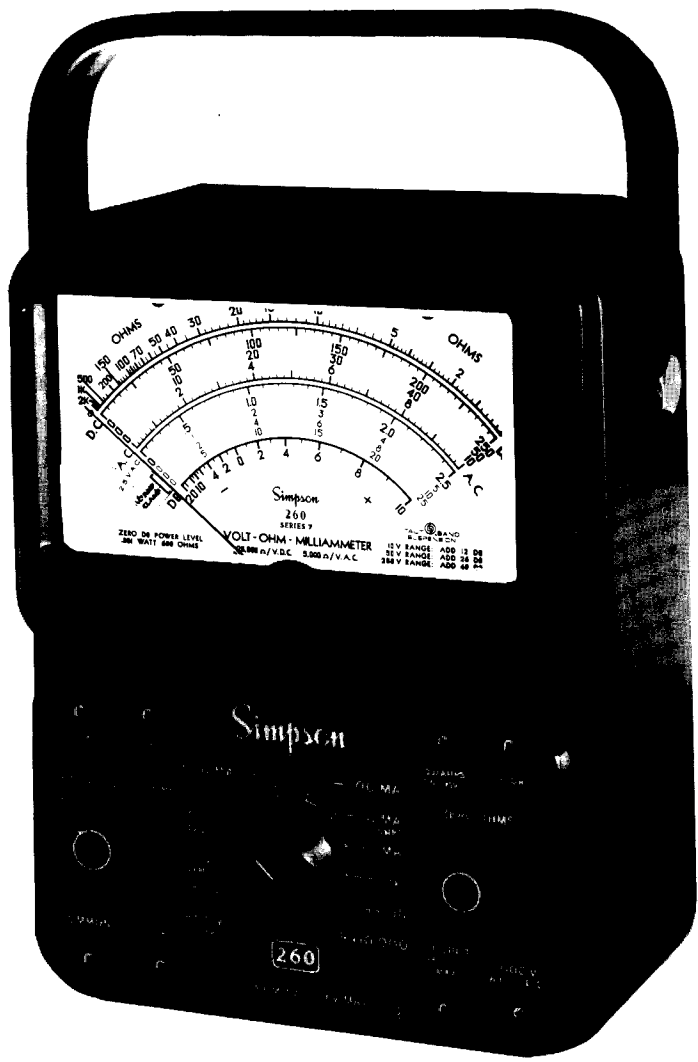

FIGURE 1-1. SIMPSON 260-7 VOLT-OHM-MILLIAMMETER
1.1.1 The Simpson Volt-Ohm-Milliammeters 260 Series 7 and Series 7M (hereafter referred to as the 260 or as the Instrument), are identical instruments electrically and mechanically, except that the Series 7M is equipped with a mirrored dial to eliminate parallax (Figures 1-1 and 1-2). The 260 Series 7 is a rugged, accurate, compact, easy-to-use instrument. The Instrument can be used to make accurate measurements of AC and DC voltage, direct current, resistance, decibels, and Output Voltage. The Output Voltage function is used for measuring the AC component of a mixture of AC and DC voltage. This occurs primarily in amplifier circuits.